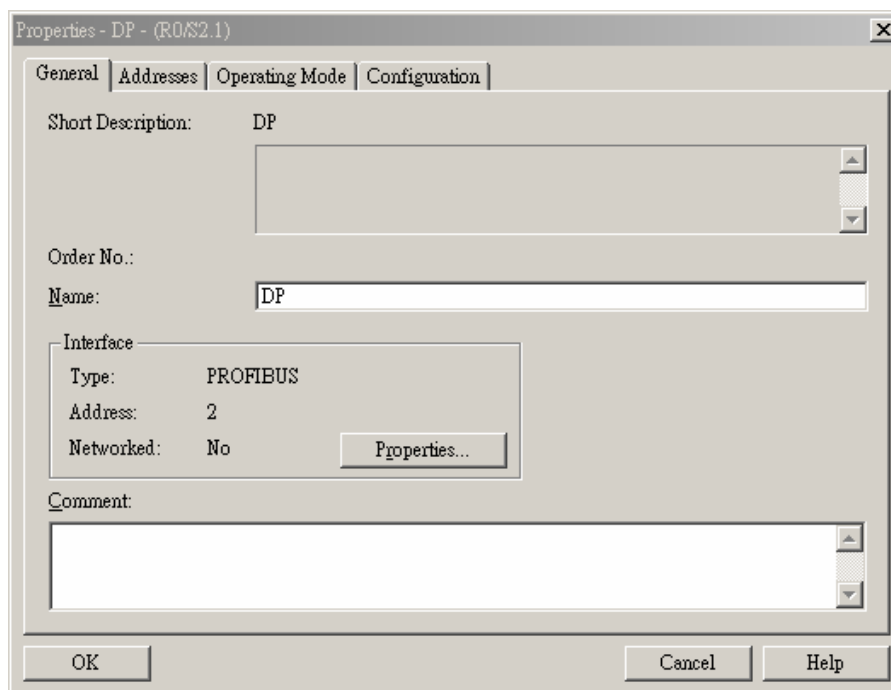

Figure 10-11
- In the new dialog box, click "Properties" to open another dialog box, as Figure 10-11.